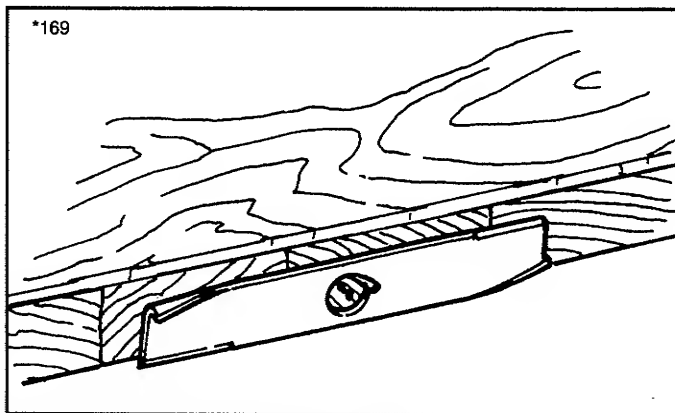

Figure 24. Balancing The Blade
5. Balance the blade as shown in figure 24. Center the blade's hole on a nail lubricated with a drop of oil. A balanced blade will remain level.